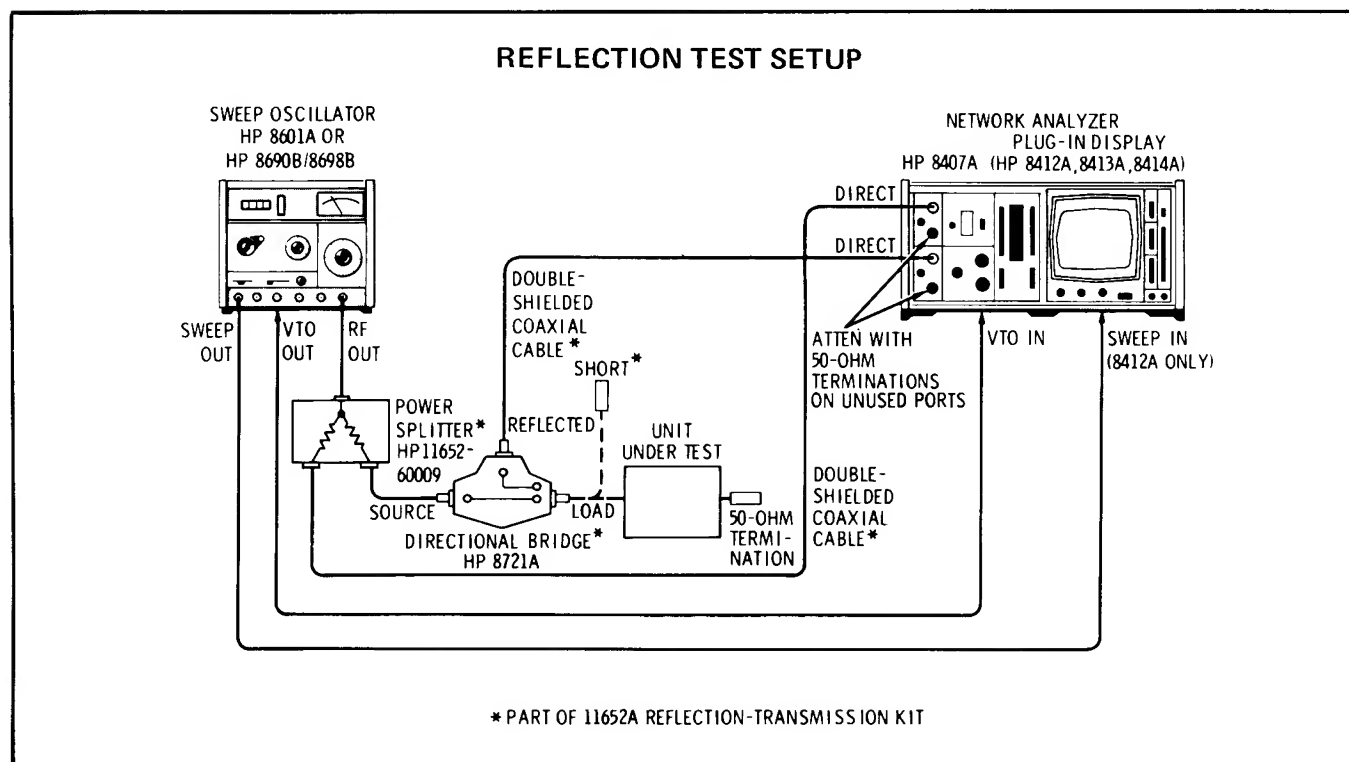

Figure 3-4. Reflection Test Setup
1. Connect equipment as shown in Figure 3-4. Connect the RF short to the LOAD port of the directional bridge. Set the REF CHAN LEVEL ADJ switch to the middle position.